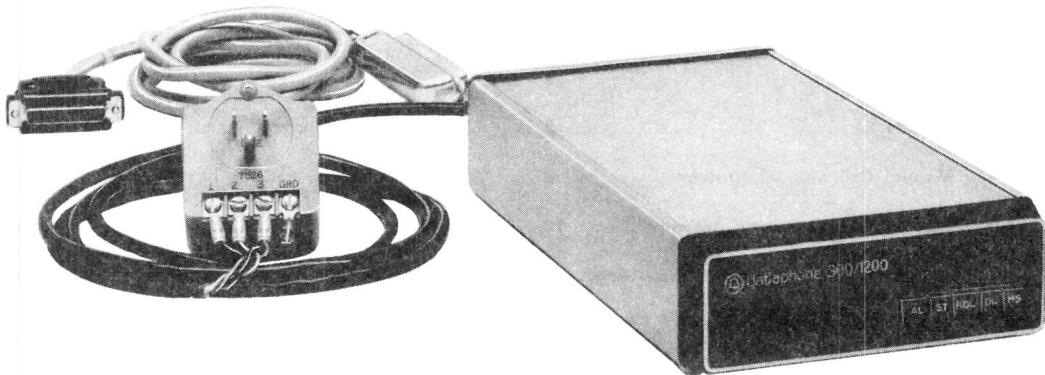

Fig. 1—Front View of DS 212A-L1A/2A
- Interface Controlled Remote Digital Loop (RL)—When this new customer option is activated, the RL test may be activated through pin 21 of the customer interface.
- Terminal ready (TR) indicator is lighted during either digital loopback or self test.
- Self test overrides both high-speed (HS) and remote digital loop (RL) interface leads.
1.03 Data set 212A (Fig. 1) provides full-duplex transmission and reception of serial binary data at two distinct bit rates over the switched network. In the low-speed mode, the maximum bit rate is 300 bits per second (bps). In the high-speed mode, operation is synchronous or character-asynchronous at 1200 bps.